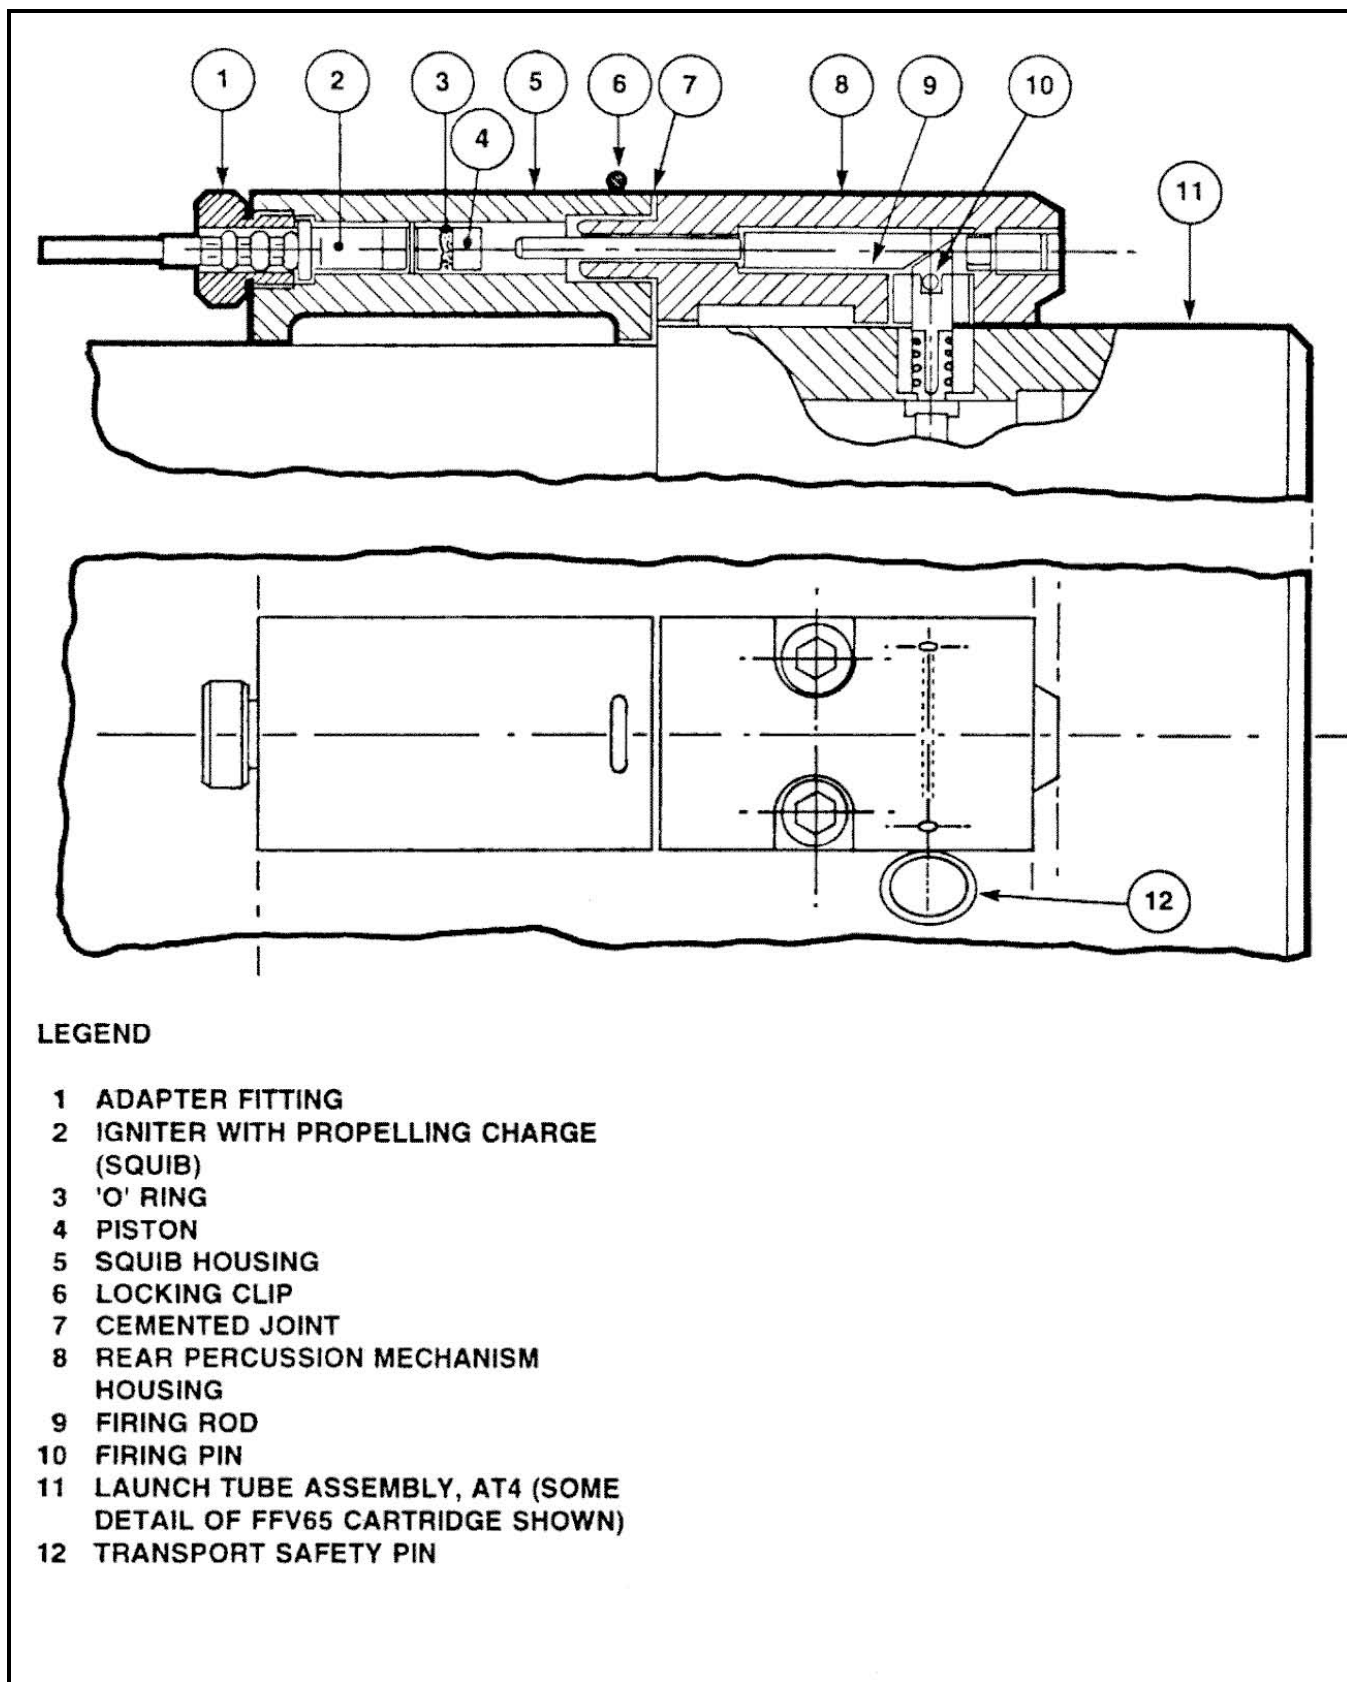

Figure 4 Squib Housing and Firing Mechanism Assembly
3. The launch tube is a Standard Swedish FFV AT4 barrel assembly constructed of fibreglass reinforced plastic with an aluminum alloy venturi. The standard AT4 trigger mechanism has been replaced by a squib activated assembly (See Figure 4), and minor changes have been incorporated in the launch tube chamber/venturi area to accommodate standard 84 mm FFV65 Heat cartridges. Each end of the launch tube is jilted with a rubber bumper/blow-out seal assembly to provide internal protection against moisture and foreign object contamination.
7. The shock tube assembly consists of a 100-metre length of olive drab coloured polyethylene tubing which is fitted with a percussion cap at one end and a squib/propellant charge unit at the other. The tubing is coated internally with a thin layer of finely powdered HMX explosive composition, which when properly initiated, transmits a low intensity shock wave signal along its length at approximately 1900 to 2000 metres per second. The light explosive loading of 15 to 20 milligrams per metre ensures that the explosive signal does not disrupt the tubing, but is of sufficient intensity to activate the mine percussion firing mechanism when augmented by the squib/propellant charge assembly (See Figure 4).
- c. Gas pressure from the squib/propellant charge acts on the free-floating piston (See Figure 4) to drive the firing rod forward against the bevelled head of the firing pin. This action, in turn, forces the firing pin down to strike the percussion primer located in the side wall of the FFV65 cartridge case.